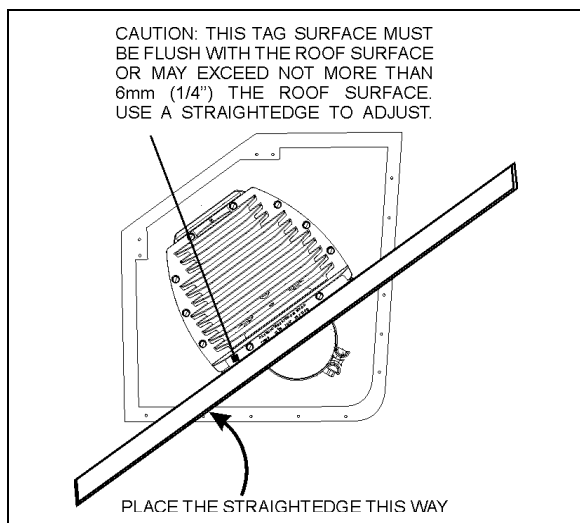

FIGURE 8: DIFFUSER POSITION ADJUSTMENT 04015\_2
3. Using a straightedge, adjust the diffuser assembly level. The top surface of the tag fixed on the diffuser grille must be flush with the roof surface (fig.8). It may exceed about 1/4in (6mm). Place the straightedge as shown on figure 8.